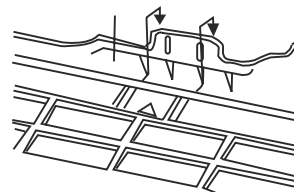

Fig. 9-6
- Hang the claw behind the indoor unit on the pothook on the wall rear panel, move the unit left and right to check if the body is firm (as shown in Fig 9-6).